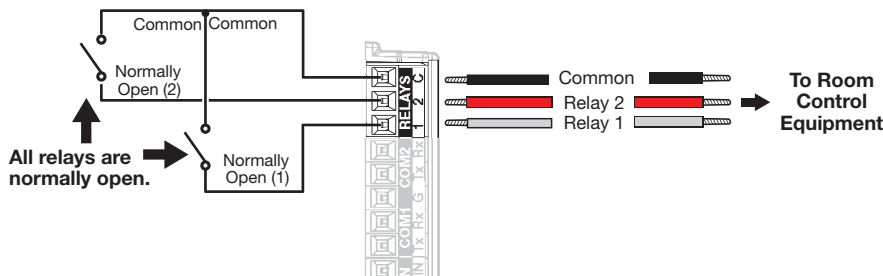

Figure 10. Relay Ports
To use a single relay port connect Pin 3 (C) and either Pin 1 (Relay 1) or Pin 2 (Relay 2) to the device being controlled. To use both relay ports, connect the pins as shown in figure 10. Pin 3 (C) must be connected to both devices being controlled.